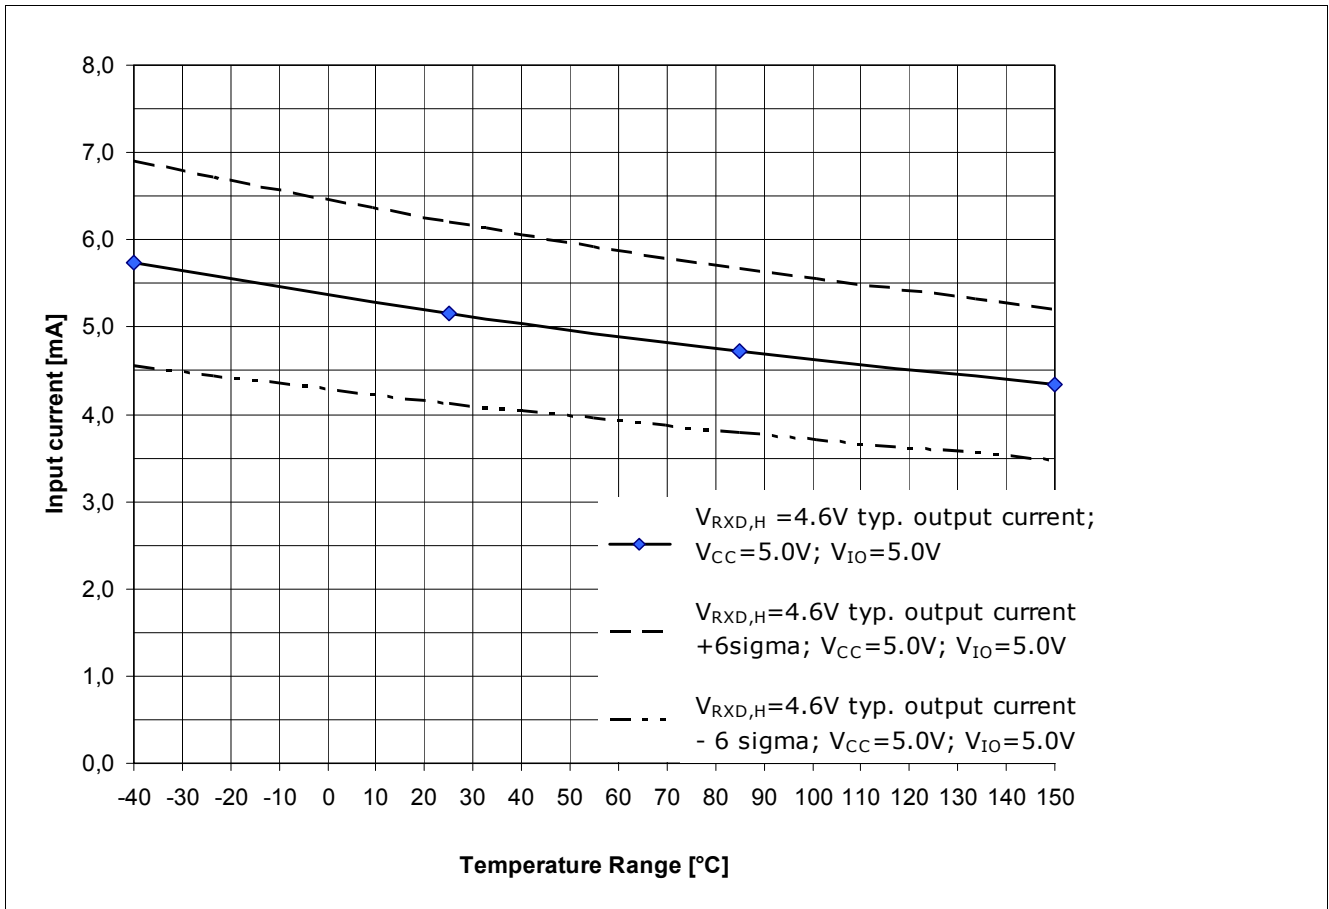
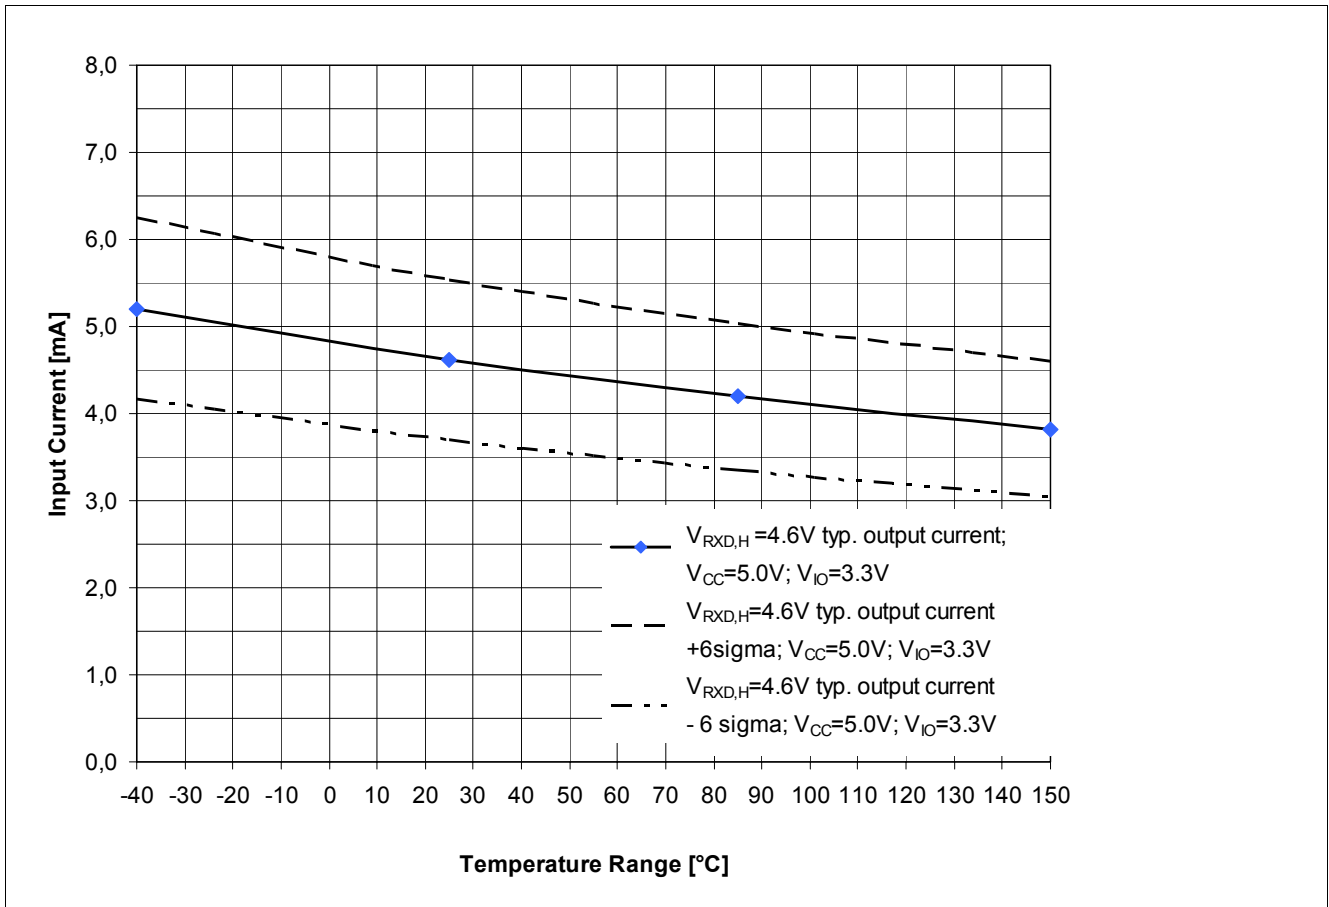

Figure 11 RxD Output driver capability for a logical “High” signal $V_{RxD,H}=4.6\text{ V}$, $V_{CC}=5.0\text{ V}$, $V_{IO}=5.0\text{ V}$ ¹⁾
Figure 12 RxD Output driver capability for a logical “High” signal $V_{RxD,H}=4.6\text{ V}$, $V_{CC}=5.0\text{ V}$, $V_{IO}=3.3\text{ V}^1)$
The diagram in Figure 11 shows the output current capability of the RxD output pin depended on the chip temperature T_J at a V_{IO} power supply of 5.0 V. Figure 12 shows the output current capability of the RxD output pin at a V_{IO} power supply of 3.3 V.
- The curve “ **$V_{\text{RxD,H}} = 4.6$ V; typical output current; $V_{\text{CC}} = 5.0$ V; $V_{IO} = 5.0$ V;**” displays the typical output current at the RxD output pin of the TLE8250GVIO (see Figure 11).
- The curve “ **$V_{\text{RxD,H}} = 4.6$ V; typical output current + 6 sigma; $V_{\text{CC}} = 5.0$ V; $V_{IO} = 5.0$ V;**” displays the expected maximum value of the output current at the RxD output pin (see Figure 11).
- The curve “ **$V_{\text{RxD,H}} = 4.6$ V; typical output current - 6 sigma; $V_{\text{CC}} = 5.0$ V; $V_{IO} = 5.0$ V;**” displays the expected minimum value of the output current at the RxD output pin (see Figure 11).
- The curve “ **$V_{\text{RxD,H}} = 4.6$ V; typical output current; $V_{\text{CC}} = 5.0$ V; $V_{IO} = 3.3$ V;**” displays the typical output current at the RxD output pin of the TLE8250GVIO (see Figure 12).
- The curve “ **$V_{\text{RxD,H}} = 4.6$ V; typical output current + 6 sigma; $V_{\text{CC}} = 5.0$ V; $V_{IO} = 3.3$ V;**” displays the expected maximum value of the output current at the RxD output pin (see Figure 12).
- The curve “ **$V_{\text{RxD,H}} = 4.6$ V; typical output current - 6 sigma; $V_{\text{CC}} = 5.0$ V; $V_{IO} = 3.3$ V;**” displays the expected minimum value of the output current at the RxD output pin (see Figure 12).